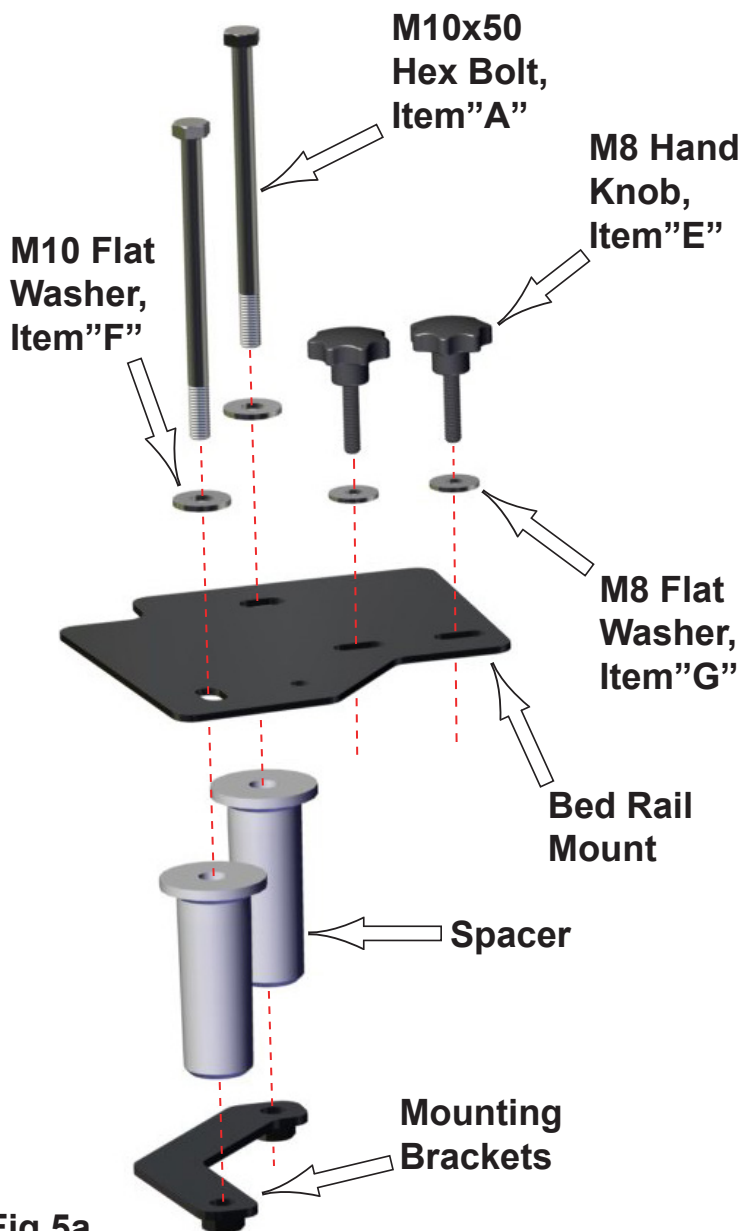
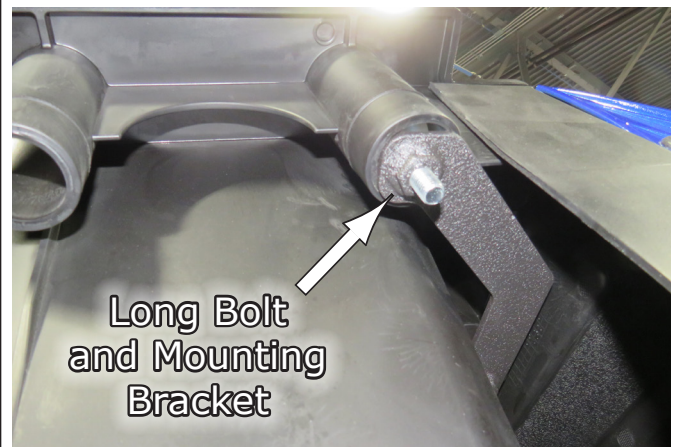

Fig.5a
Fig.5c
5. Then you will need to install the **Bed Rail Mounts** along with the **Mounting Brackets** and hardware as shown in **Fig.5a-c**. **Fig.5c** shows a view from up underneath and how the long bolts screw into the **Mounting Brackets**. One end is a little hard to see, but can still be easily threaded in. Repeat for opposite side.